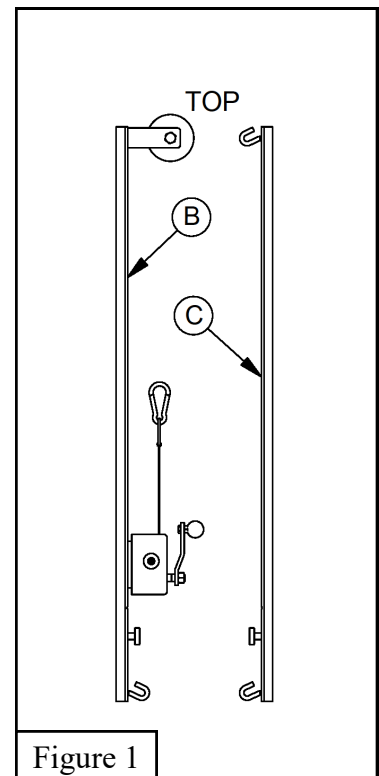

Figure 1
1. Remove the pre-installed top post cap to install *Cable Tensioning Slider Bar Assembly* (B) and *Non-Tensioning Slider Bar Assembly* (C) into the *SVB50A Volleyball Standards* (A). Make sure the top of *Cable Tensioning Slider Bar Assembly* (B) and *Non-Tensioning Slider Bar Assembly* (C) are toward the top of *SVB50A Volleyball Standard* (A). Reinstall top post cap. See Figures 1 and 2.